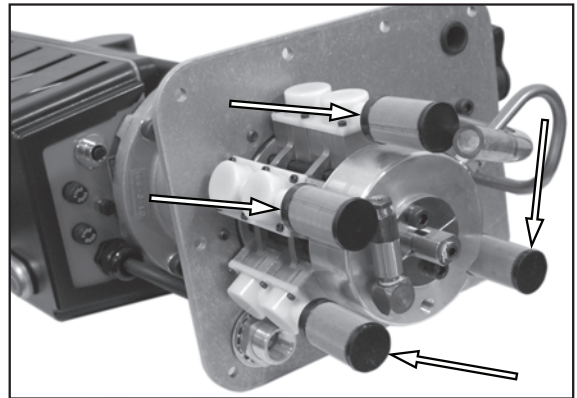

Figure 5.
12. See Figure 5. Replace the inlet suction filters. (4 qty.)